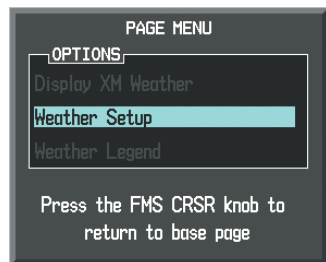

Figure 6-4 Weather Data Link (XM) Page Menu
- 1) Select the Weather Data Link (XM) Page.
- 3) With 'Weather Setup' highlighted, press the **ENT** Key (Figure 6-4).